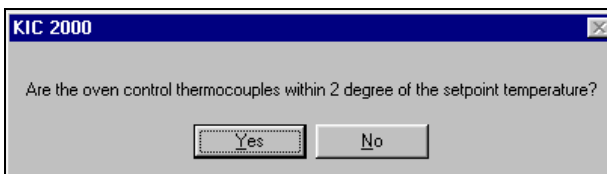

Figure 54
- After you select on the **Profile Start** button the software will ask if all the oven control thermocouples are within 2 degrees of the set point value. See Figure 54.